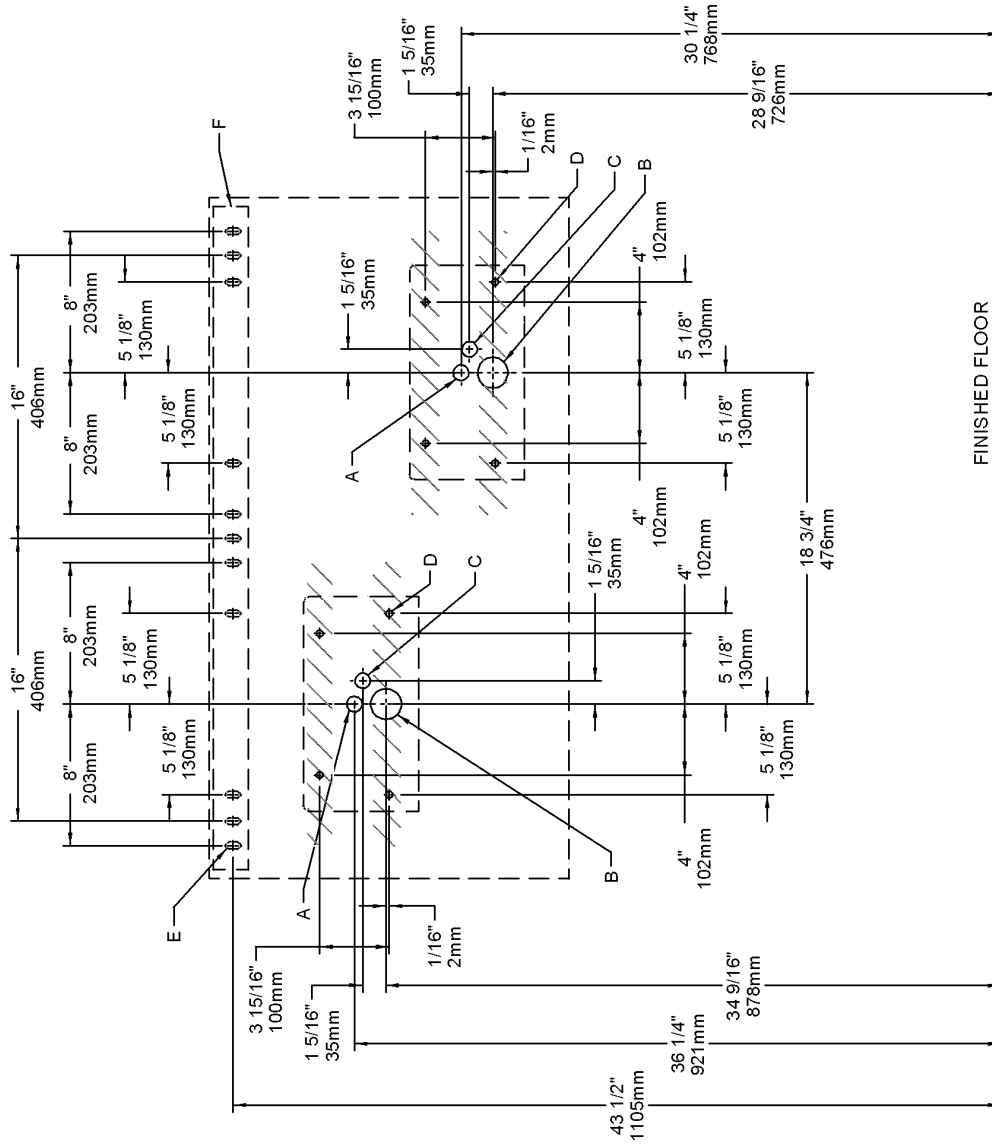

FIG. 3
5. Connect drain and water supply lines to the freeze resistant fountain. Refer to Figure 3 or 4 for component positions. Inline strainer must be used on the inlet water line.